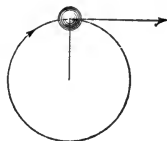

FIG. 15.
in a circle instead of in a straight line is exactly equal to the tension of the string. If the string were cut, the pulling force that drew it away from the straight line would be removed, and the body would then "fly off at a tangent"; that is, it would move in a straight line tangent to the circle, as shown in Fig. 15.
**EXAMPLE.**—What is the tension in the string of Fig. 15, if the ball weighs 2 pounds and is revolved around at the rate of 500 revolutions per minute? The string is 2 feet long.